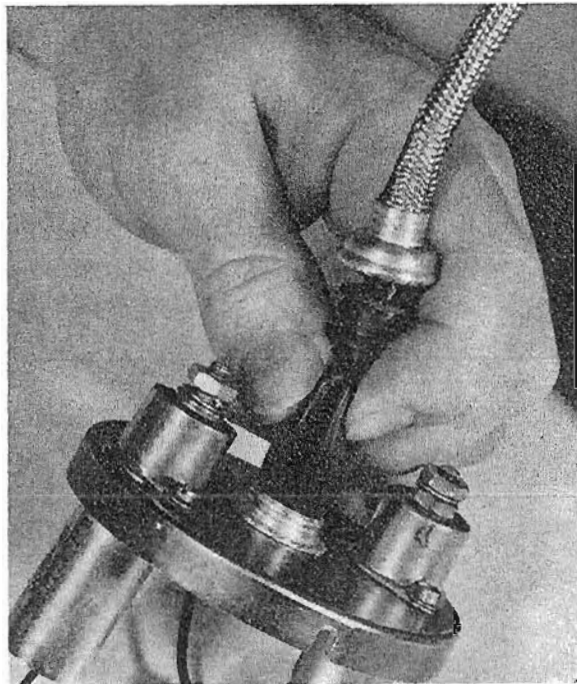

Figure 1. Folding Insulator
2. To insert new cable, lubricate with DC4 Compound (C-92-24108) and fold insulator as shown in Figure 1, over. Press insulator and cable into distributor cap and press snap nut onto cap.